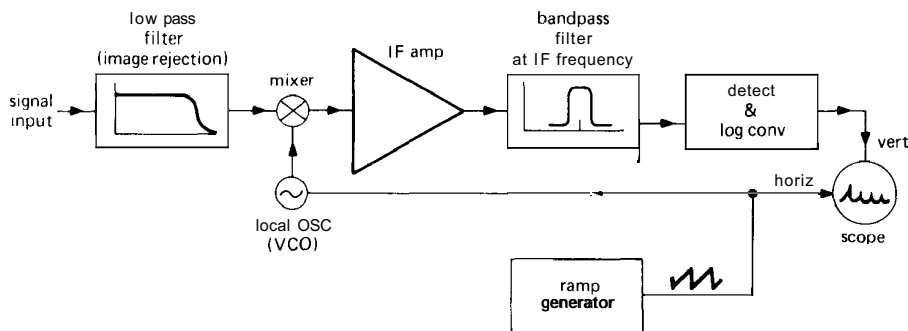

Figure 15.43. Swept-LO spectrum analyzer.
Spectrum analyzers come in two basic varieties: swept-tuned and real-time. Swept analyzers are the most common variety, and they work as shown in Figure 15.43. What you have is basically a superheterodyne receiver (see Section 13.16), with a local oscillator (LO) that can be swept by an internally generated ramp waveform. As the LO is swept through its range of frequencies, different input frequencies are successively mixed to pass through the IF amplifier and filter. For example, suppose you have a spectrum analyzer with an IF of **200MHz** and an LO
chirp/Z transform. In this method a dispersive filter (delay time proportional to frequency) replaces the IF **bandpass** filter in the swept-LO analyzer (Fig. 15.43). By matching the LO sweep rate to the filter's dispersion, you get an output that superficially resembles the swept analyzer output, namely a linear scan of frequency versus time during each sweep. However, in contrast to the swept-LO analyzer, this scheme gathers signals from the entire band of frequencies continuously. Another interesting technique for real-time spectral analysis is the Bragg cell (or "acousto-optic spectrometer"), in which the IF signal is used to generate acoustic waves in a transparent crystal. These deformations diffract a laser beam, generating a real-time display of the frequency spectrum as light intensity versus position. An array of photodetectors completes the analyzer output. Bragg-cell spectrometers are used in radio astronomy. A typical unit has **2GHz** instantaneous bandwidth, analyzed into 16,000 channels of **125kHz** bandwidth each. When choosing a spectrum analyzer type, be sure to consider trade-offs among bandwidth, resolution, linearity, and dynamic range.